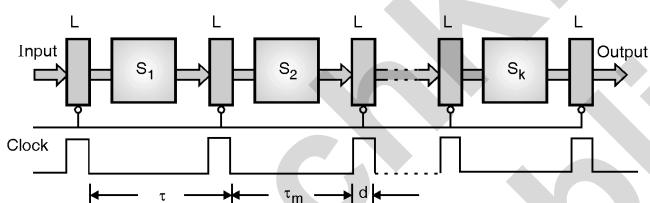

Fig. 10.7.7 : Synchronous linear pipelining system
- The clock signal is synchronously given to all the latches, such that on reception of the clock signal each stage takes the output of the latch connected to its input. This system is shown in Fig. 10.7.7.
- The clock cycle, τ as shown in Fig. 10.7.7, can be calculated as discussed below. Let τ_i be the delay time for stage S_i . Hence the **clock cycle** time can be given as :
where τ_m the maximum stage delay and d is, as shown in the Fig. 10.7.7, the 'on' period of the clock pulse.